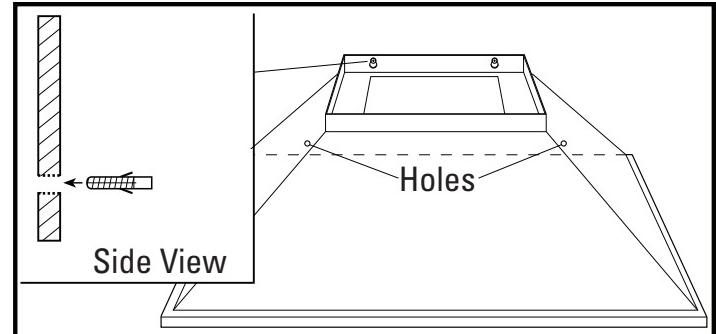

Figure 2
2. With the hood hanging in place from the top screws, mark the location of the lower holes. If installing onto drywall, remove the hood and drill holes into wall using a 3/16" drill bit. Install wall anchors into the drilled holes (one for each hole). If installing into other material (brick, cement, plaster, etc.) choose an appropriate fastener capable of supporting the weight of the hood. Hang the hood over the keyhole anchors and verify that the hood is centered, level and the bottom holes line up with the anchors. Install the provided #6 x 1" screws into the anchors (Figure 2). Tighten all screws completely and reinstall the Grease filters.